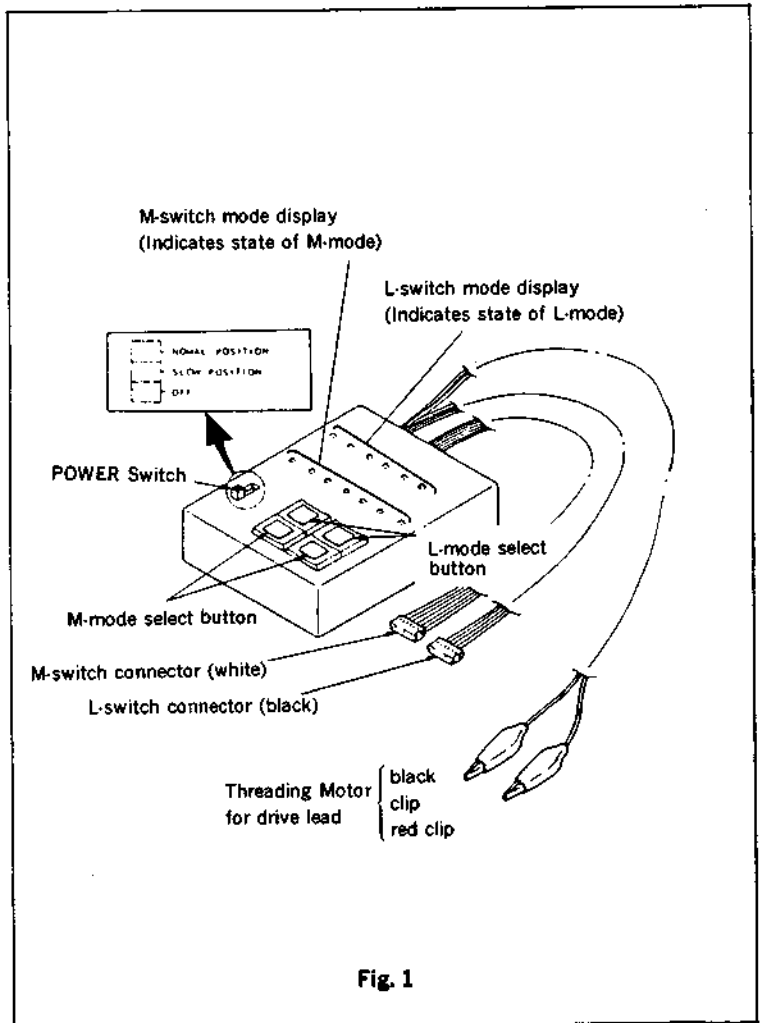

Fig. 1
1. Location of parts and controls (fig. 1)